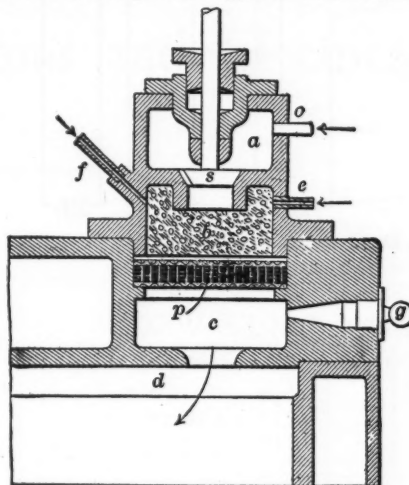

Fig. 6—The carbureting and gas mixing passage in the engine showing the chamber where fuel and air enter
The Brayton engine shown in Fig. 7 had the air compressed in the pump B, whose volume was one-half that of the power cylinder A. The constant pressure tanks at the base of the frame delivered the air through the pipe (O) in Fig. 6 which is the burner for the oil engine and passed it through the absorbent material or wick (b) to which the oil was fed by a pump. The air and fuel combine here so that the air becomes carbureted and passes through a wire-gauze grating (p) into the cylinder (d) where it burns on meeting the flame on the bottom of the gauze. The air is never completely shut off by the admission valve, but enough always flows through (f) to keep a small flame alight.